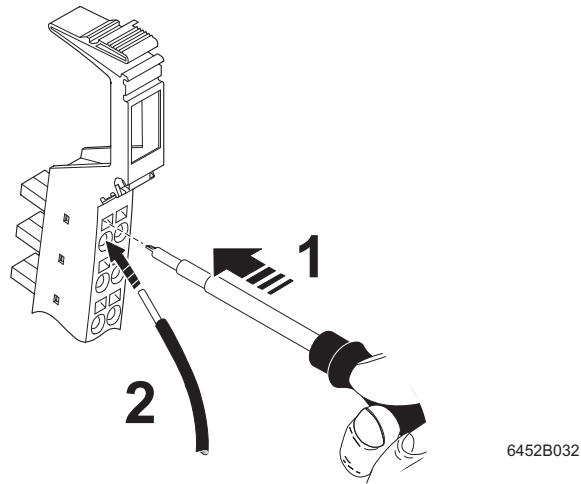

Figure 4-6 Connecting unshielded cables
- Push a screwdriver into the actuation shaft of the appropriate terminal point (Figure 4-6, detail 1), so that you can insert the wire into the spring opening. Phoenix Contact recommends using a SZF 1 - 0,6X3,5 screwdriver (Order No. 1204517; see Phoenix Contact “CLIPLINE” catalog).
- Insert the wire (Figure 4-6, detail 2). Remove the screwdriver from the opening. This clamps the wire.